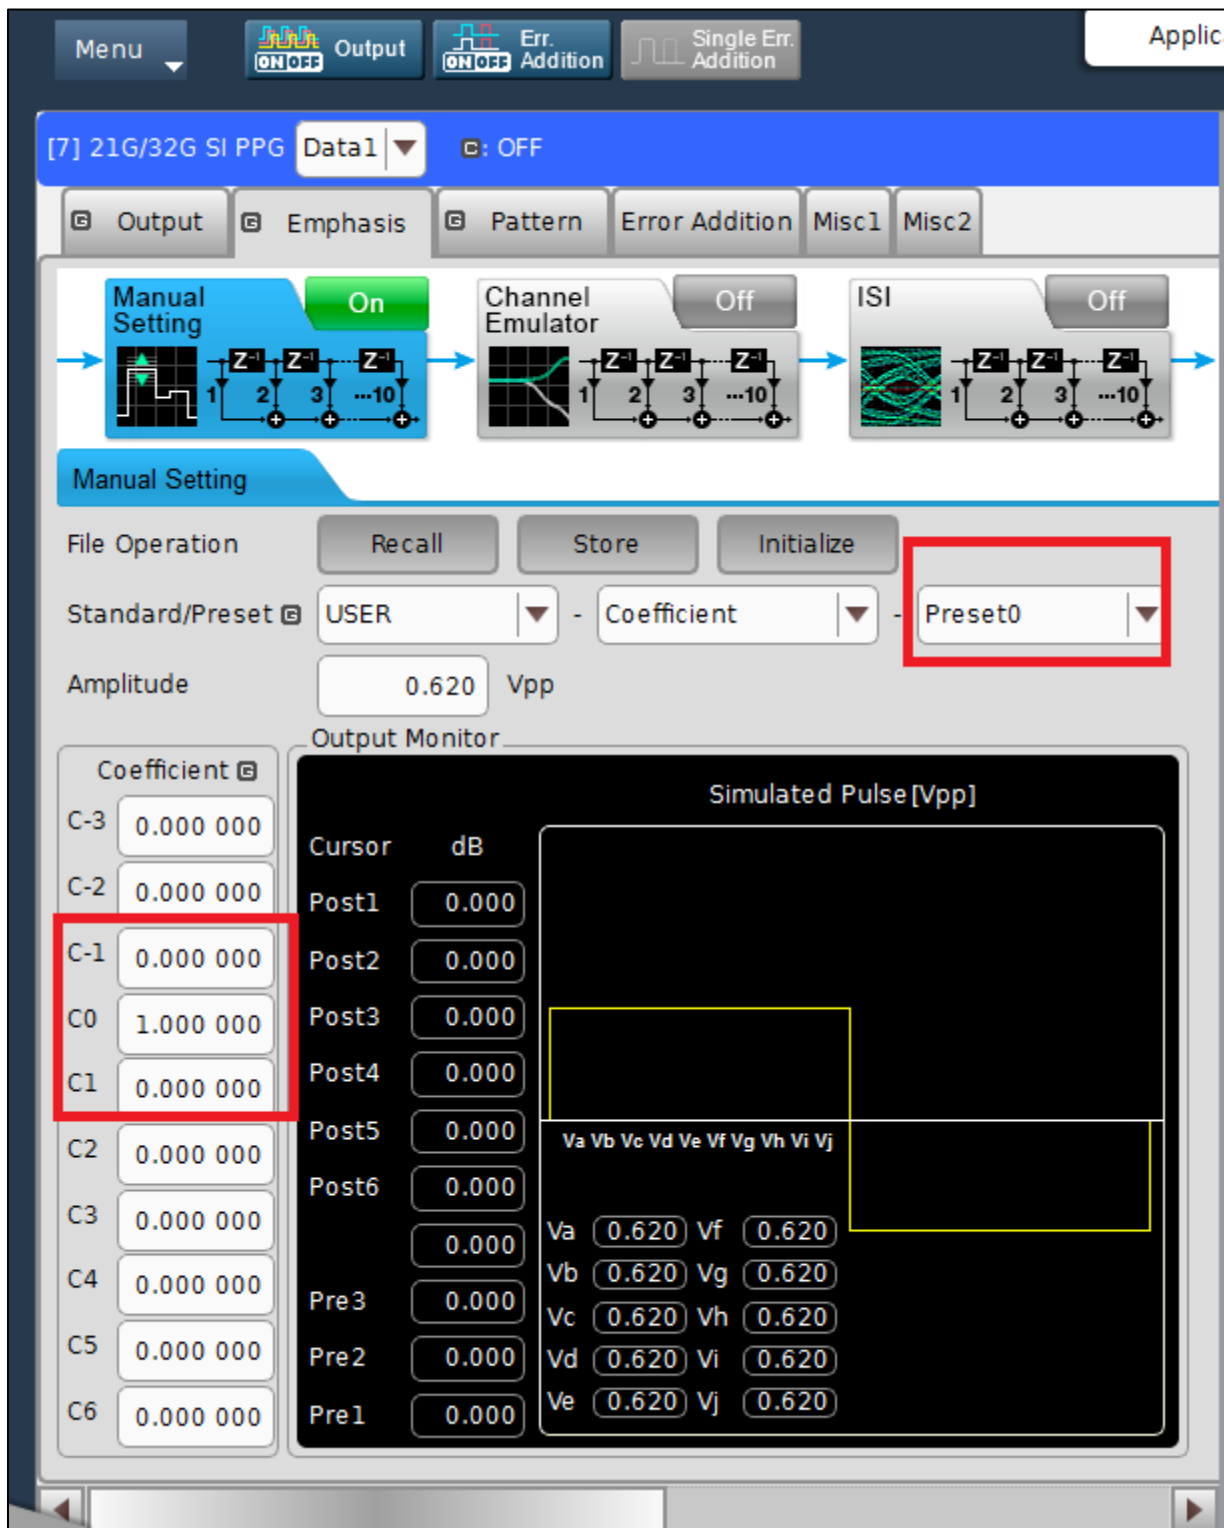

FIGURE 55. 4TAP EMPHASIS CH1 INTERFACE
- In 4Tap Emphasis Ch1 Menu, create 15 Presets with coefficients which match the Table in the DisplayPort 2.1 Specification. See Figure 55 below.